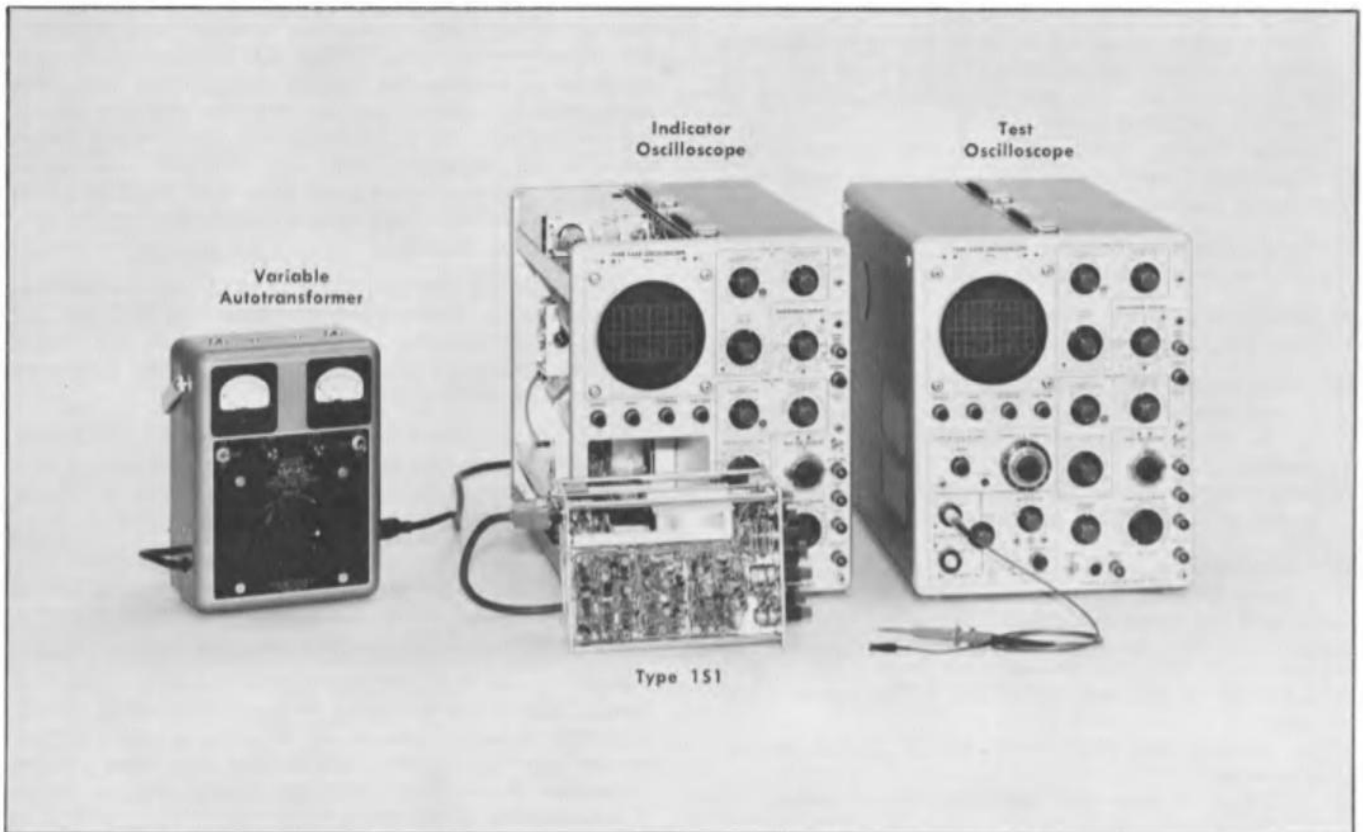

Fig. 5-3. Initial test setup for steps 1 through 3.
4. Connect the interconnecting plug of the Type 1S1 to the indicator oscilloscope through the 30-inch flexible extension cable (see Fig. 5-3).
- a. Initial test equipment setup is shown in Fig. 5-3.